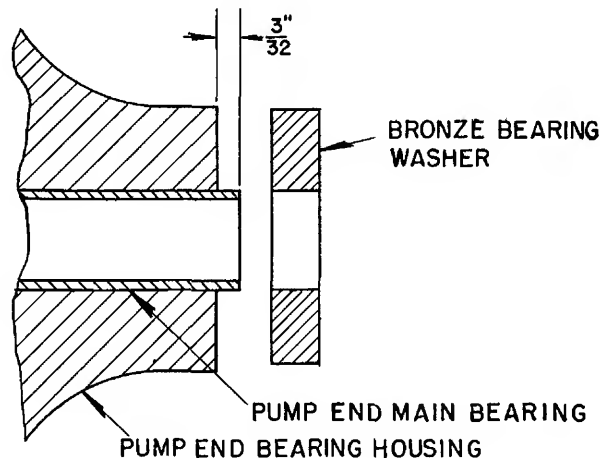

FIG. 43 - PUMP END MAIN BEARING POSITION
2. Line up the hole in the bearing with the oil port in the housing. Using the puller shoulder and a jackscrew or press, press the bearing in place. Let the bearing protrude above the housing $3/32'' \pm 1/64''$ so that it will support the bronze bearing washer. (See Fig. 43.)